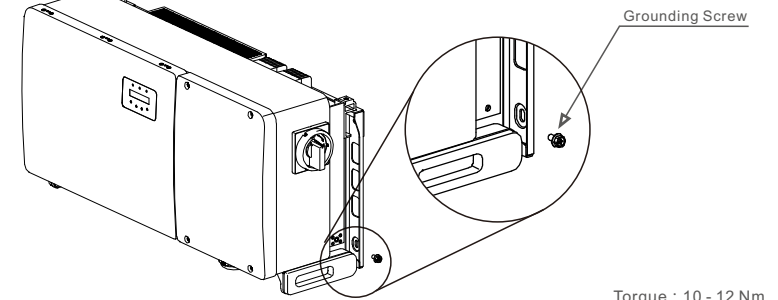

Figure 3.17 Fixed cable
- 6) Connect the grounding cable to the grounding point on the heat sink, and tighten the grounding screw, Torque is 10 - 12 Nm(see figure 3.17).